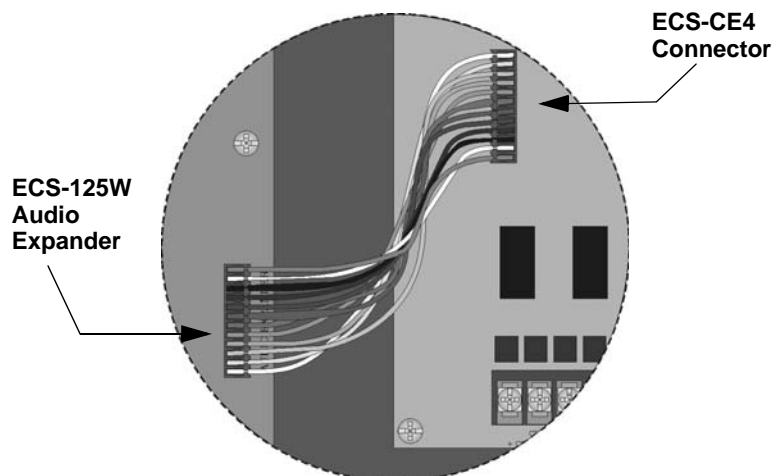

Figure 4-77 Audio Expander Wire Harness Connections
2. Connect the audio expander cable harness (P/N 130426) from the connector labeled "Audio Expander" on the ECS-50W or ECS-125W to the connector on the ECS-CE4 as shown in Figure 4-77.